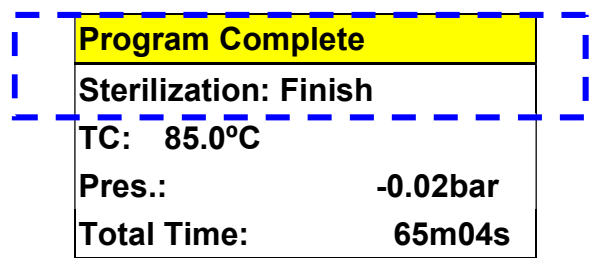

Figure 112- Program Complete
G. On completion, the buzzer will sound and the Program Complete message is displayed as shown in Figure 112- Program Complete.